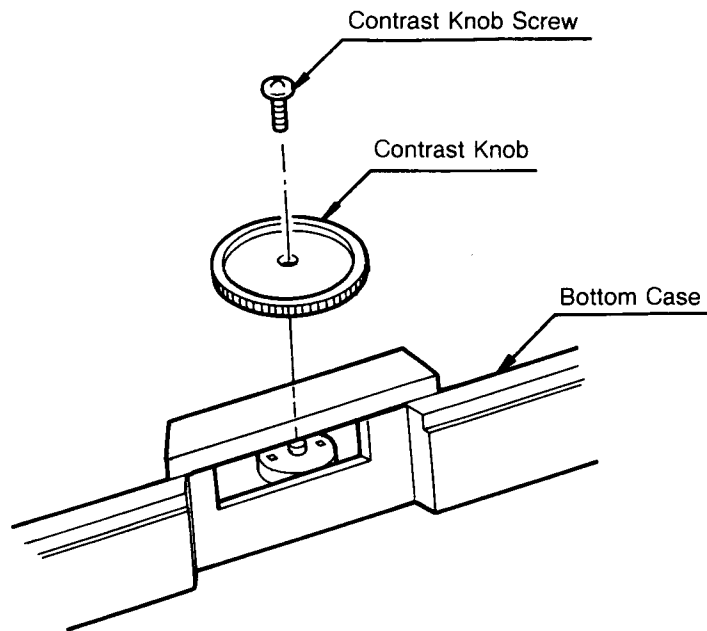

Figure 2-20. Contrast Knob Removal
- (1) Remove the Contrast Knob screw and remove the Contrast Knob. (Figure 2-20)